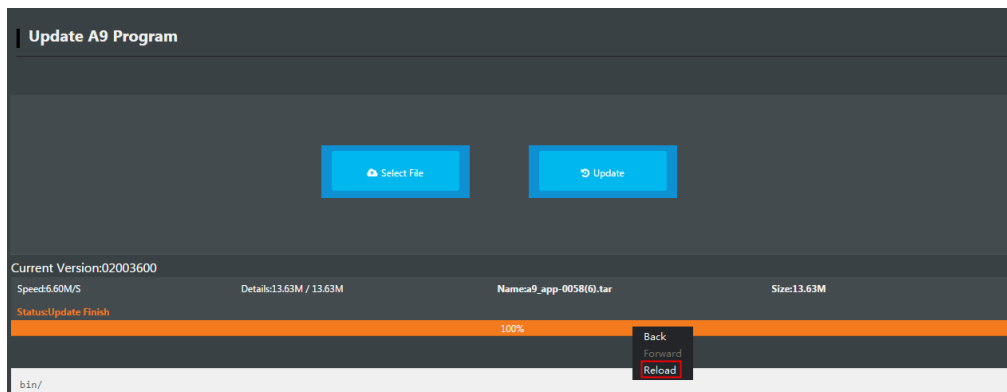

Figure 6.39 Update A9 firmware
Step 6 Right-click **Reload** after **Status** is **Update Finish**, as shown in Figure 6.39.